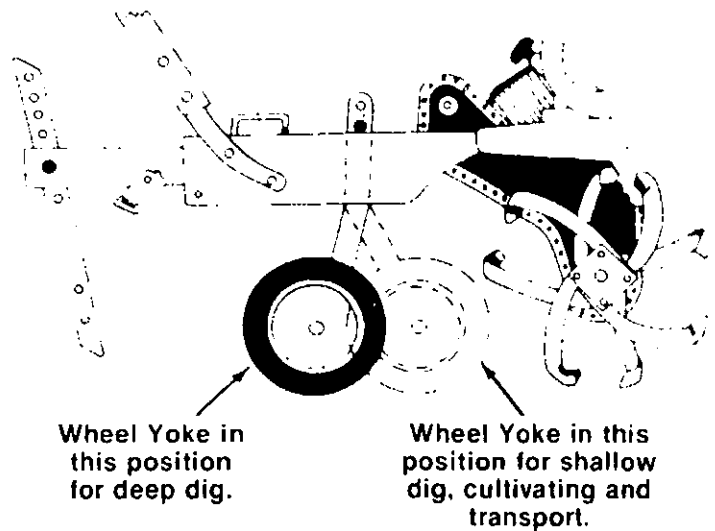

FIGURE 24.
1. **Wheel Yoke Adjustment:** Place wheel yoke so that the wheels are forward (nearest point between wheels and tines) for shallow tilling, cultivating and transport. This will also increase the forward speed. See figure 24. Turn yoke around (farthest point between wheels and tines) for deep tilling. Forward speed will decrease. See figure 24.